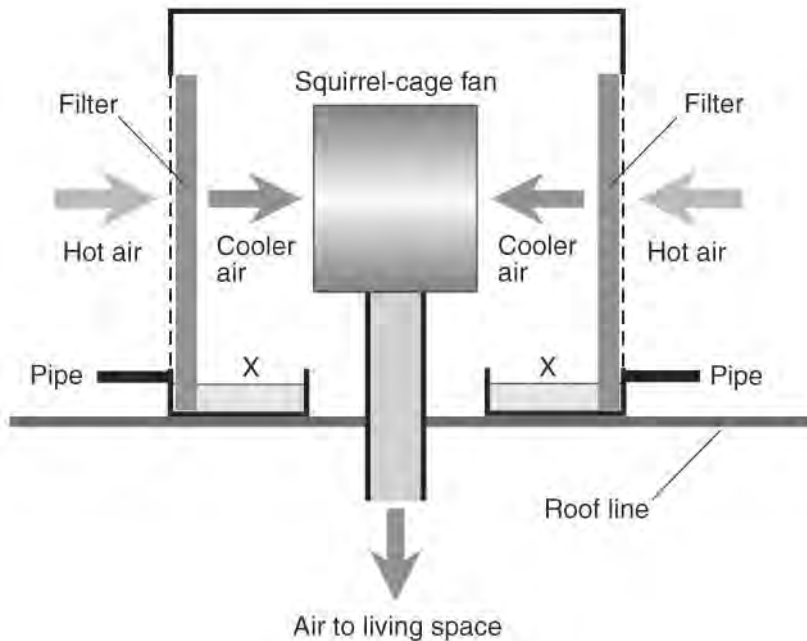

Figure Exam-1 Diagram for questions 5 and 6.
5. Figure Exam-1 is a functional diagram of
6. In Figure Exam-1, what substance is represented by the symbols X?